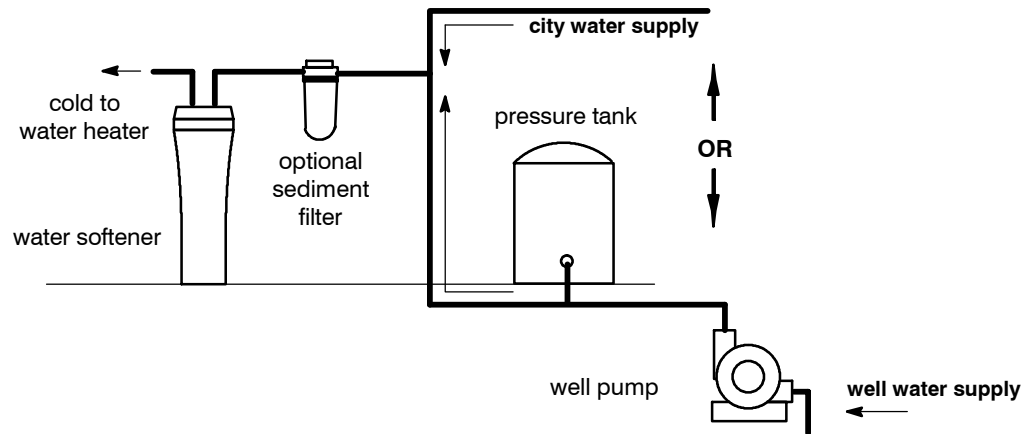

Figure 1
- Always install the water softener between the water heater and water inlet. Any other installed water conditioning equipment should be installed between the water softener and the water inlet (see Figure 1 below).